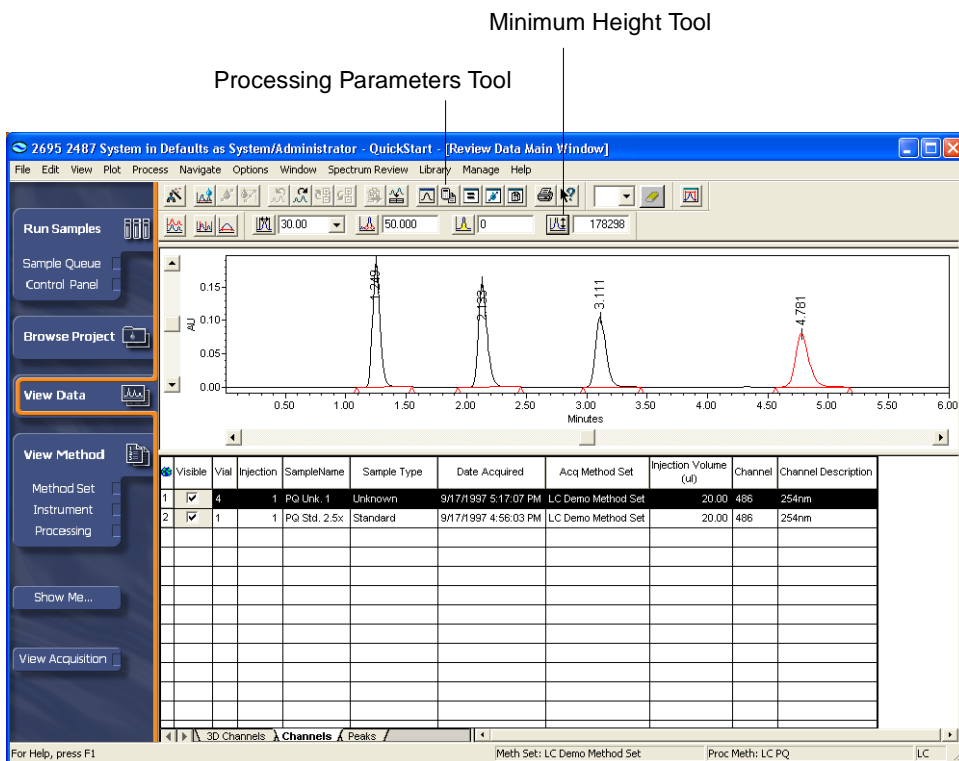

Figure 6-4 View Data, Integrated Data Using a Minimum Height Value
- If necessary, you can adjust the minimum height or minimum area parameters to further refine the integration (Figure 6-4). To enter appropriate Minimum Area or Minimum Height criteria, perform one of the following:
After setting this value, click  (Integrate) again to update the integration of the chromatogram. The View Data window (Figure 6-4) is updated.